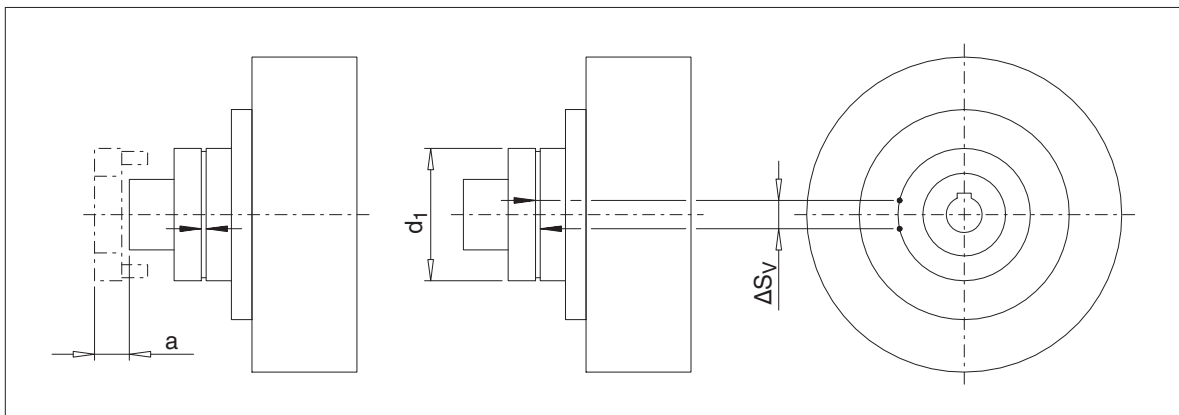

Fig. 13: Maintenance interval of the N-EUPEX add-on coupling
The flexible elements (12) can continue to be used up to a specified wear limit. To assess wear, the permitted torsional backlash, converted to the chord dimension ΔS_V on the outer coupling diameter, is shown in table 9. To obtain the dimension ΔS_V , one coupling part is rotated without torque as far as the stop and a mark applied to both sides (see figure 13). If the coupling part is rotated in the opposite direction of rotation as far as the stop, the marks move apart. The distance between the marks is the chord dimension ΔS_V . If the dimension ΔS_V exceeds the value in table 9, the flexible elements (12) must be replaced.
On the "FGD" and "FVD" types, replacement of the flexible elements (12) is possible without moving the coupled machines, if the replacement space "a" (see table 9 and figure 13 in item 10.3) has been allowed for. After the screw connection part 2/3 is released, part 3 is shifted axially and turned towards part 2. The flexible elements (12) are now freely accessible.